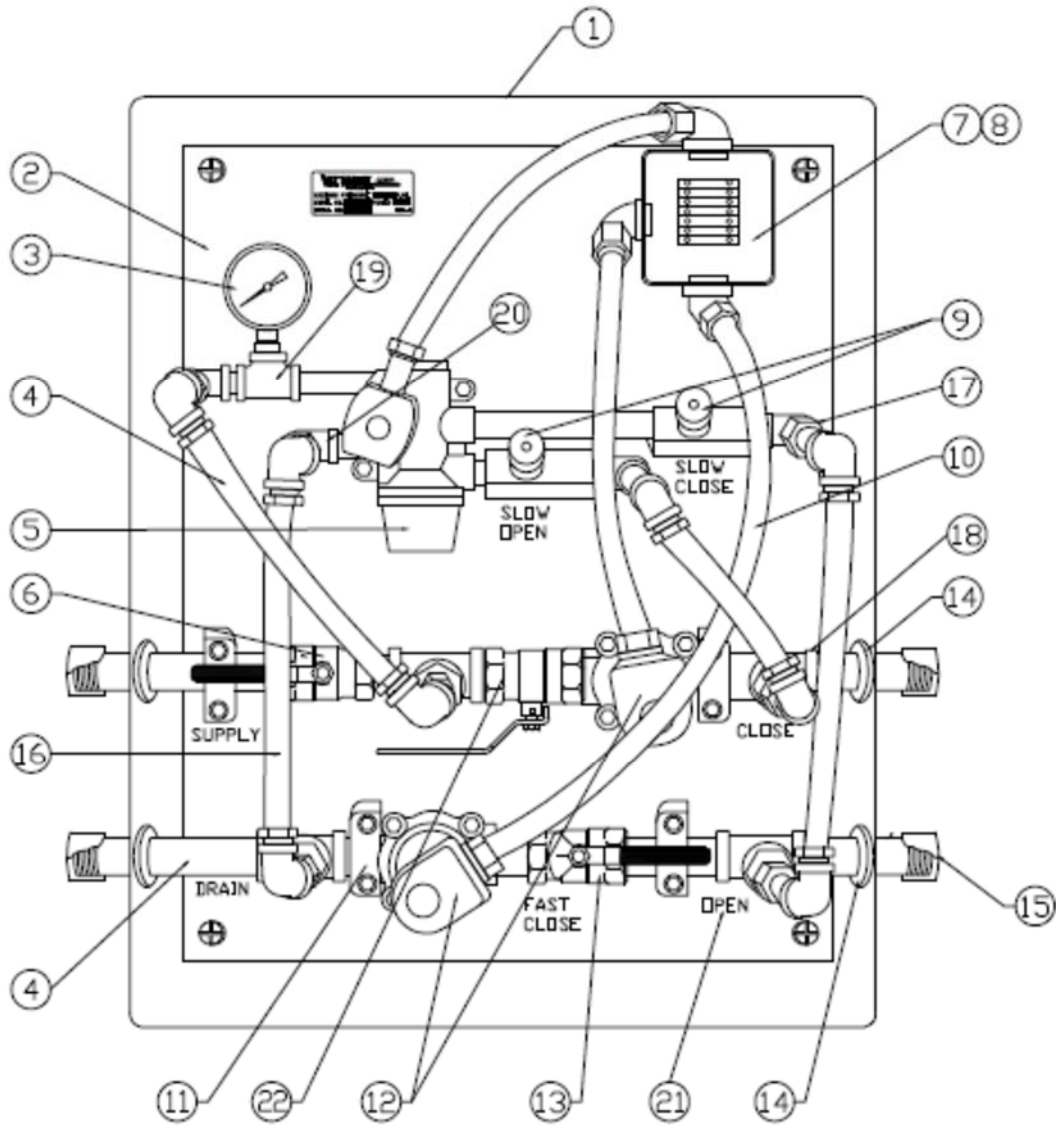

Figure 4. Hydraulic Panel Construction
Refer to Figure 4 for part identification.
1. Re-pipe the two large pipe lower runs as shown in figure 4 using teflon paste sealant.
2. Attach to the panel (2) with the pipe clamps (11).
3. Connect the gauge (3) and flow control valves (9) to the 4-Way Solenoid Valve as shown.
5. Insert the cabinet seals (14) into the side walls of the cabinet.
6. Insert the 4 pipe nipples through the seals (14) and tighten into the cabinet.